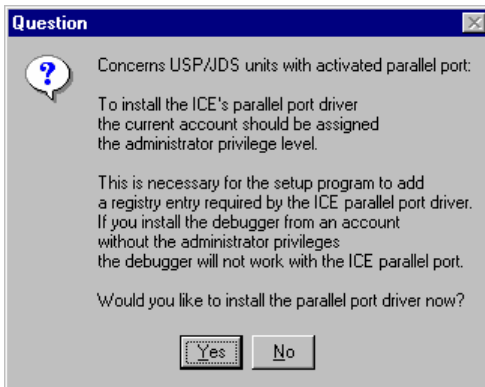

FIGURE 2 Installing the parallel driver.
2. If you are running NT 4.0 and intend to use the parallel port, please select Yes in the following dialog box to provide Chameleon with the necessary device driver (Figure 2).